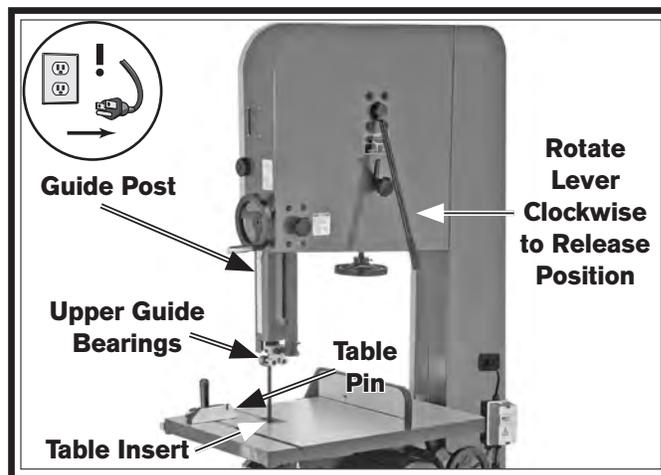

Figure 59. Blade changing controls (table pin hidden behind miter gauge).
2. Release blade tension by rotating blade tension quick-release lever (see Figure 59) clockwise to RELEASE position.
3. Remove table insert and table pin (see Figure 59). Adjust upper and lower guide bearings as far away as possible from blade.